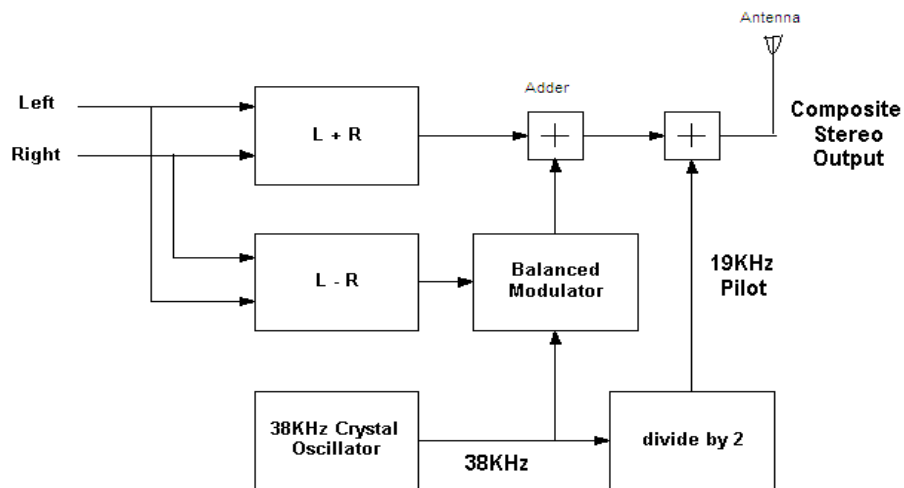

Fig.3.6 Stereo FM Transmitter
The block diagram of a stereophonic FM transmitter is shown in fig.3.6 (a).
- ❖ The spectrum of stereo FM modulating signal is shown in fig 3.6 (b).